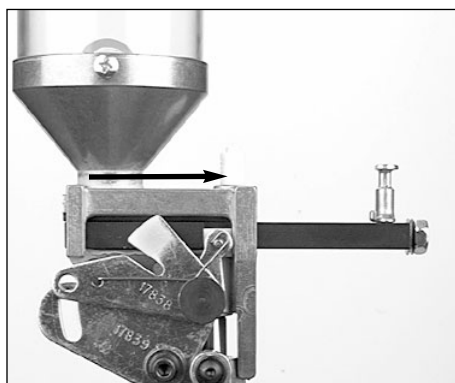

FIG 40
For the powder bar to properly dispense a measured powder charge the powder bar must travel its full distance. To travel its full distance, the white cube must contact the powder measure body (see arrow FIG 40).
3. Raise the platform. Check to see how far the powder bar has traveled FIG 40.
travels its full distance FIG 40.